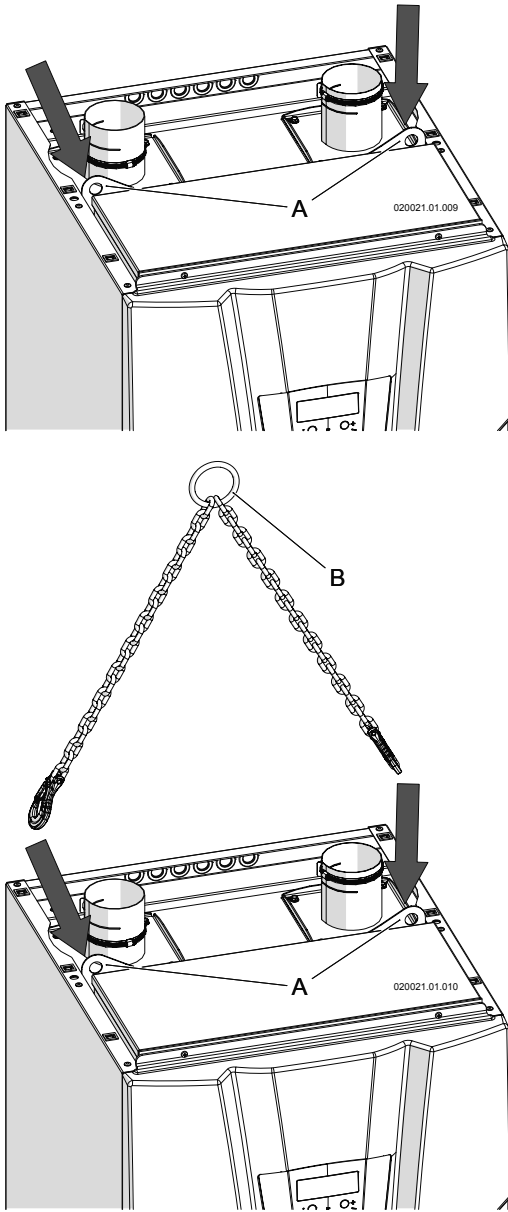

Figure 6-1 - Lifting system
There is a bracket (part "A" in figure 6-1) to facilitate installation that allows the appliance to be lifted.
- ☞ hook the lifting cables, "B" in figure 6-1, to the bracket, "A" in figure 6-1, and lift the heating module;
Once the appliance has been positioned properly, the lifting cables (part "B" in figure 6-1) must be removed before applying the upper covering.